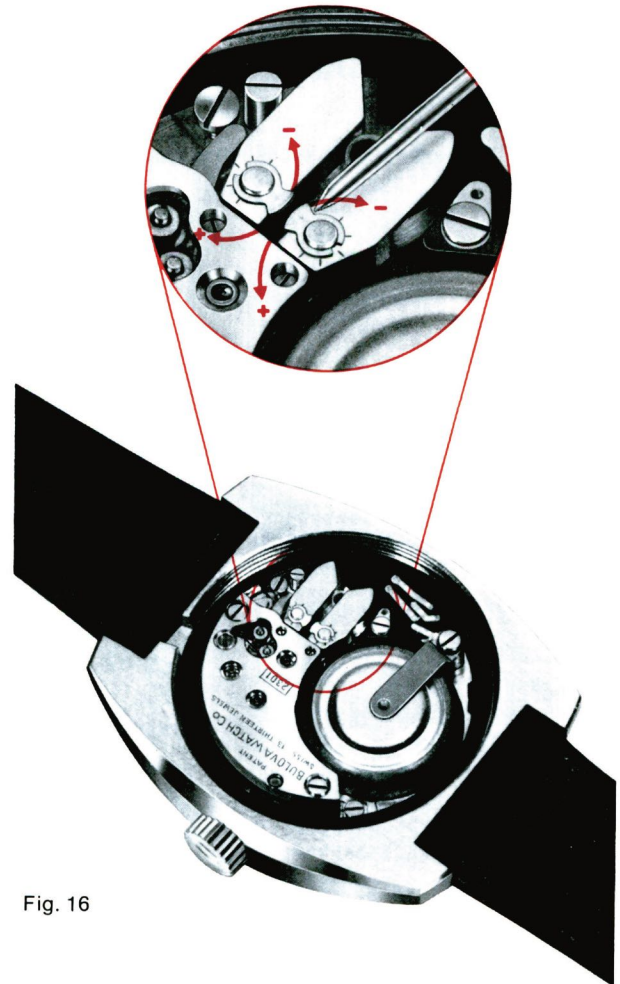

Fig. 16
The accuracy of the tuning fork Accutron Series 230 is such that a correction of more than 2 minutes per week usually requires a repair and not regulation. The regulators (fig. 16) are moved to correct the error. The range of both regulators is a total of 32 seconds per day. Moving one regulator one graduation is equal to a correction of four (4) seconds per day.
3. To correct the tuning fork rate, move regulators as shown in figure 16. One or both regulators can be moved. It is recommended to move each regulator half the amount of correction.